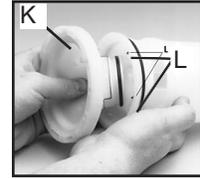

Figure 8.
9. When reassembling the pump housing to the pressure cylinder, be sure the square tab on the pump housing (K) is aligned in the notch. See arrows (L) on the pressure cylinder in Figure 8. Be careful not to pinch or nick the O-ring. Note: Grease O-rings for re-assembly. Screw the valve assembly into the cylinder. Figure 8.